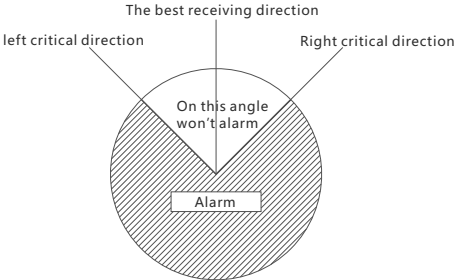

Figure 13
- 1. First visually align the device, power on, slowly rotate the RX, when the calibration indicator is all off and the RX buzzer is no longer ringing, it is correct. However, in general, the RX is slowly rotated to the left to just the alarm position (left critical direction), and then slowly rotated to the right to just the alarm position (right critical direction), and finally the barrier is adjusted to the position of the Angle bisector between the two positions (the best receiving direction) (Figure 13).